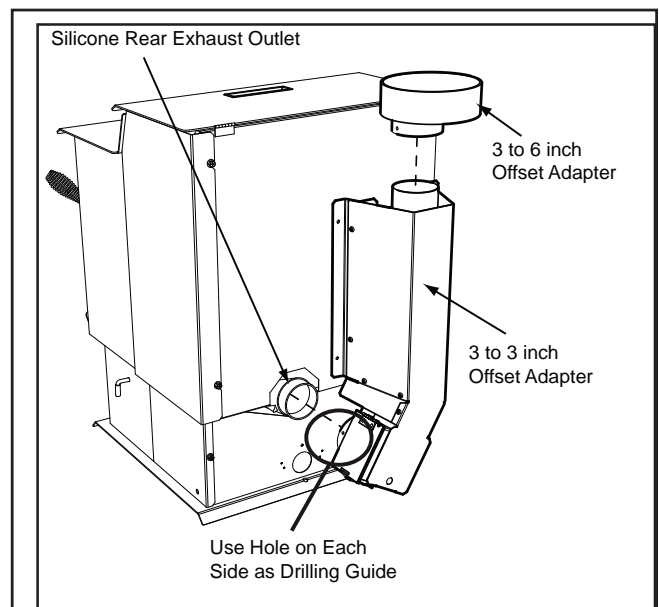

Figure 39.2
3. Drill 4 holes with #26 drill bit (provided) into the back of the appliance using the outer shield as a pattern (make sure the assembly is vertical). **Figure 39.2.**
7. To clean the top vent adapter open the clean-out cover. **Figure 39.2.**